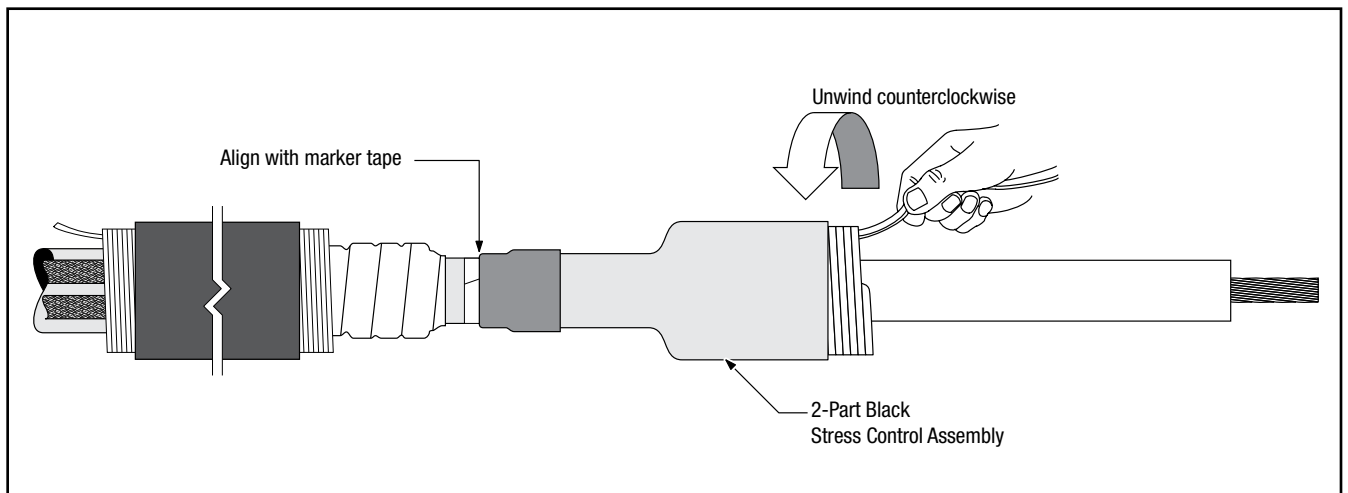

Figure 13
4.4 Select the 2-Part Black Stress Control Assembly (medium length tubular assembly on white core) from the kit. Slide the Stress Control Assembly over the cable with the loose core end toward the cable end. Align the Stress Control Assembly Tube (not the core) with the marker tape, and remove the core by pulling the loose end while unwinding counterclockwise. (Figure 13)